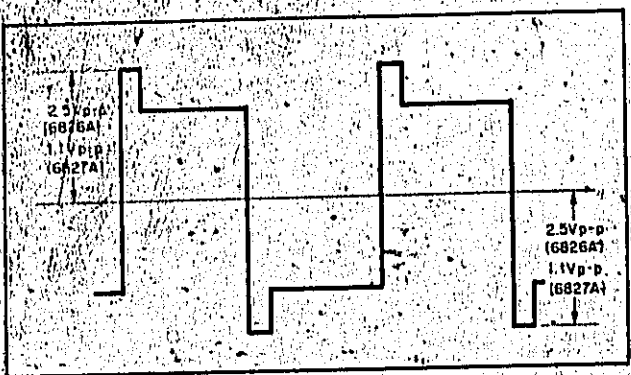

Figure 5-15. Overcurrent Protect Test Waveform
- d. Turn on BPS/A and observe waveforms (see Figure 5-15). Overshoot should not exceed: